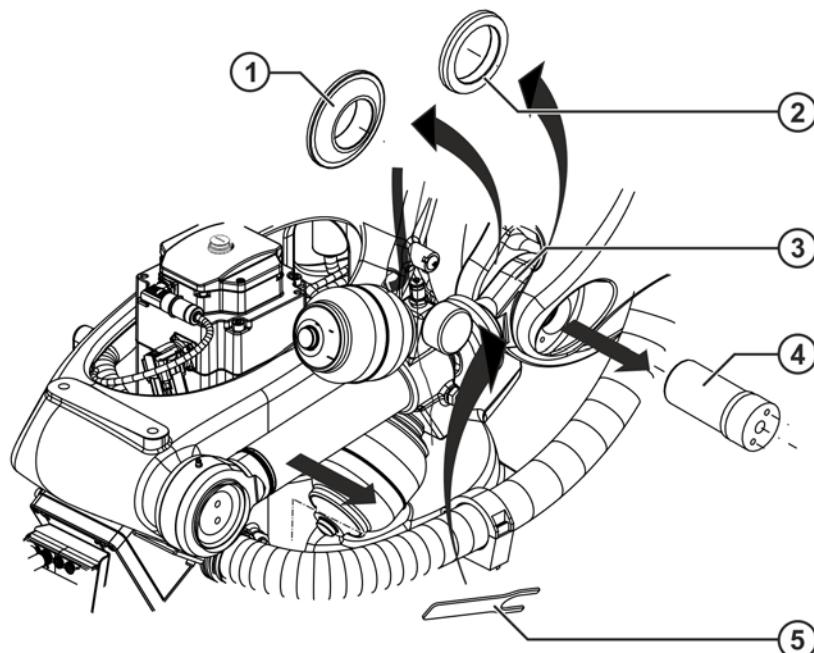

Fig. 11-22: Removing the counterbalancing system: pin
11. Insert the pin locator on the right-hand side between the articulated head and the link arm (>>> Fig. 11-22).